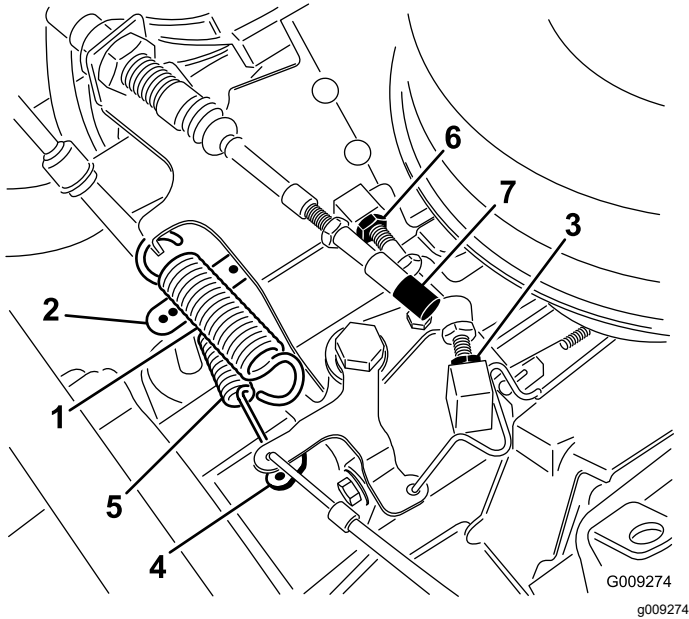

Figure 60
2. With the return spring installed, hold the engine governor arm toward the operator's side of the machine and adjust the low-idle stop to obtain a 0.25 to 1.25 mm (0.01 to 0.05 inch) gap between the outside diameter of the hole in the throttle lever and the inside of the governor-spring hook (Figure 60).